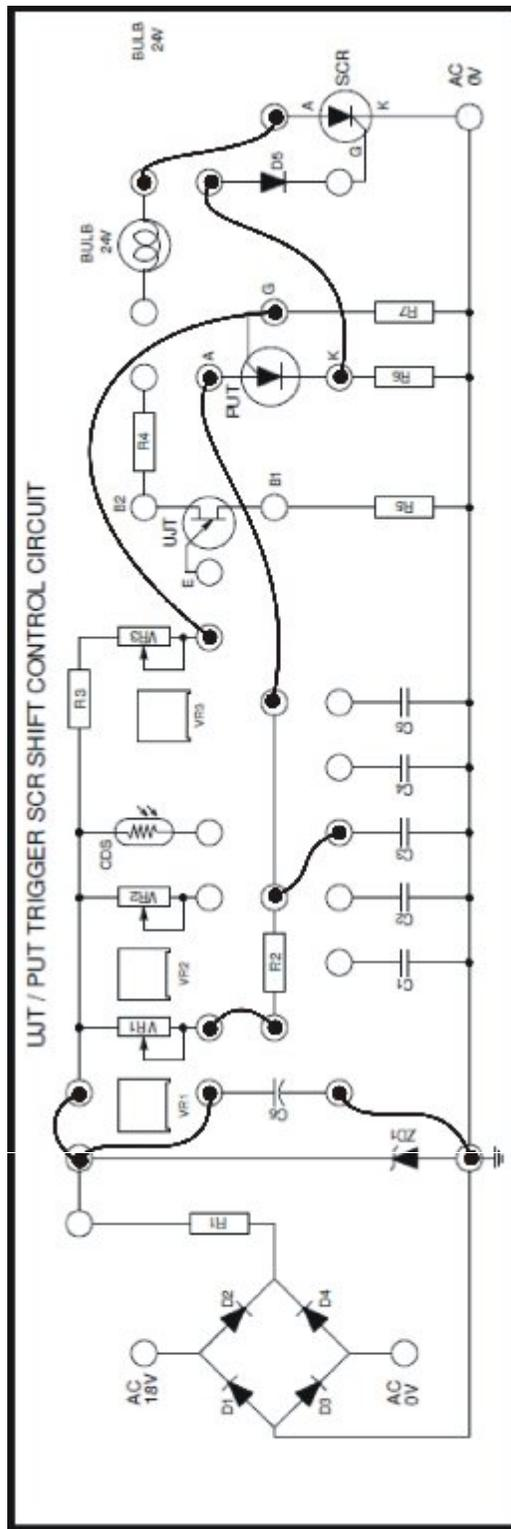

Fig 9.1
Fig. 9-1 shows the PUT-SCR ac power control circuit. The power applied to the PUT oscillator is a pulsating dc voltage with the peak limited by zener diode. The pulsating dc that comes from 18-V ac input voltage followed by bridge full-wave rectifier D1-D4 is used to synchronize with ac line input.
1. Install the 20-W lamp in the socket on IT-9002. Turn VR1 fully CW. Draw a circuit diagram by connecting points as shown in Fig 9-1. Now locate these components on the Module and complete the circuit diagram by connecting the components using the leads with 2mm male pins.